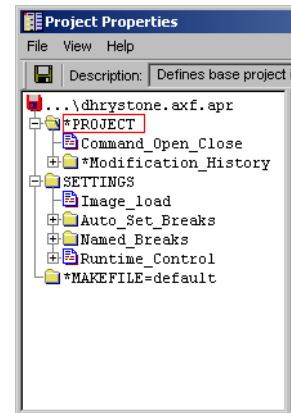

Figure 3-6 Changing auto-project settings
3. Expand the PROJECT group to see the project settings, shown in Figure 3-6.
Figure 3-6 on page 3-14 shows the **Image_load** group and other image settings, such as breakpoints and runtime controls.